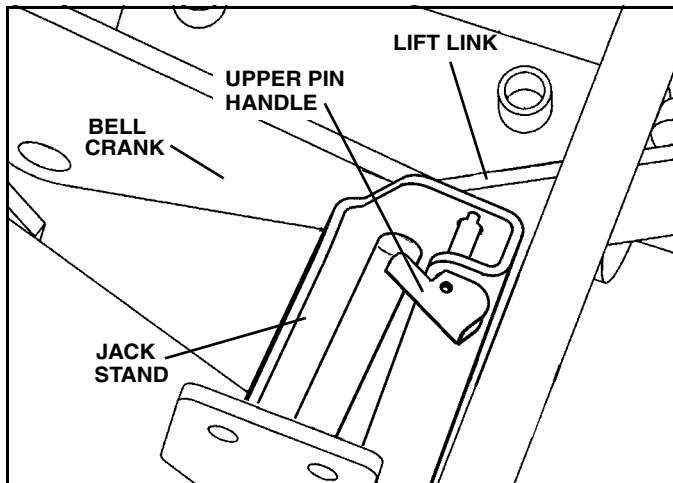

Figure 1-9
16. Disengage both pins on the jack stand by pulling the handles. Lower the jack stand and lift on the back of the A-frame. Then engage the upper pin by pushing the handle down to lock the jack stand in place. (See Figure 1-9).